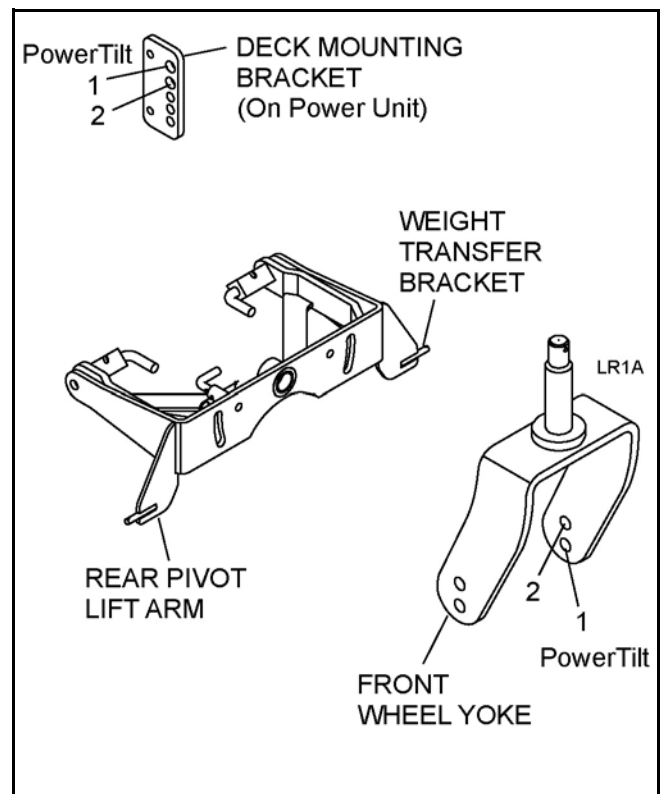

Figure 1. Mounting Hole Location
6. Attach rear pivot lift arm in desired power unit mounting bracket holes and connect with spring-loaded pins. See Figure 1 for hole locations.
NOTE: Attach rear pivot lift arm in hole position 1 on deck mounting brackets when front wheels are in hole 1 on front wheel yoke. This will put the deck in the high cut range, (2 to 5 inches - manual, 1-1/4 to 5-1/2 inches - PowerTilt™). Attach weight transfer chains to weight transfer brackets using four links. Use PowerTilt™ in hole position 1 shown in Figure 1.
6. When the caster wheels are moved to a different hole in the fork, it will be necessary to move the rear pivot lift arm to the corresponding hole in the power unit mounting brackets. See Figure 1.